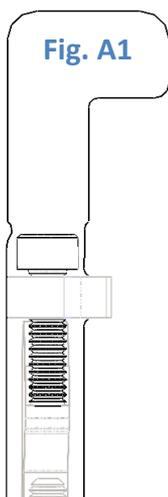

Fig. A1
**FIG. A1** - Shows the yellow screw in the factory position. In this position the mechanism is held upright (this screw is also used to fine tune the angle of each arm in the closed position)